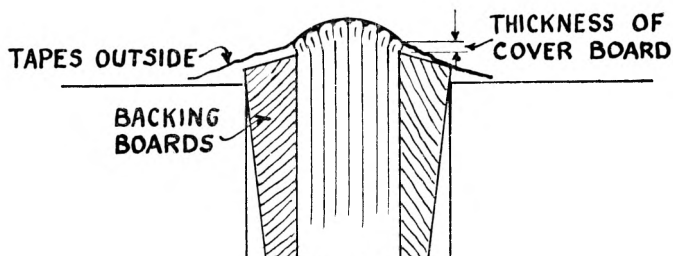

Fig. 60
40. Place a backing board on each side of the book with the tapes *outside* the boards—there is a danger of their being damaged if left inside. The backing boards should lie parallel with the back and at a distance, equal to the thickness of the cover-boards to be used, away from the back fold, fig. 60, about $\frac{1}{8}$ " is generally required. If the backing boards tend to slip out of position they can be made to grip the book more firmly if they are slightly moistened on the inside.
41. Grip the boards and book firmly and lower them into the lying press until the backing boards are almost level with the cheeks of the press, fig. 60. Check to see that the boards are in their right position on the book and that the back has retained its slight curvature and then screw up the press tightly, keeping the cheeks parallel with one another